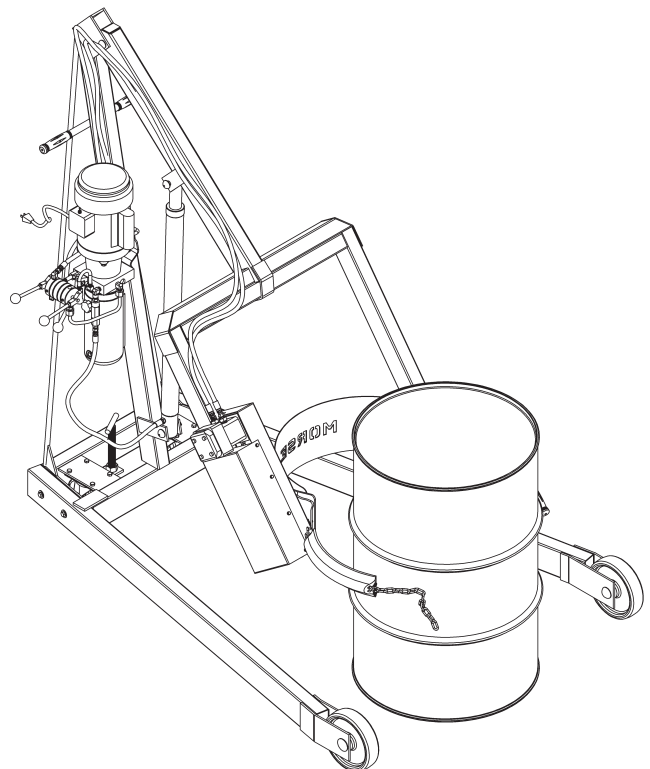

Figure 3.1
The screw-down floor lock is located on the base of the tower (figure 3.1). Turning the floor lock clockwise until it locks in the down position activates the floor lock. When the floor lock is activated it prevents unwanted free wheeling of the unit. Floor conditions determine the effectiveness of the floor lock. The operator should verify its holding action before depending on it to hold.
- 2.) Using "LIFT" control as described in "**Machine Description - Controls**", position drum holder assembly with back band at middle of drum. (Figure 3.1). With ratchet plate swung open and cinch chain hanging from chain hook, push unit until back band rests firmly against drum. Some adjustment to tilt angle of saddle may be necessary to ensure band fits flush on drum.